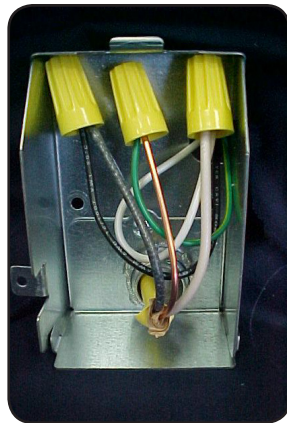

Figure 32
- 6 Press the wires into the junction box as shown in **Figure 32**. Make certain that the wire nuts do not loosen.